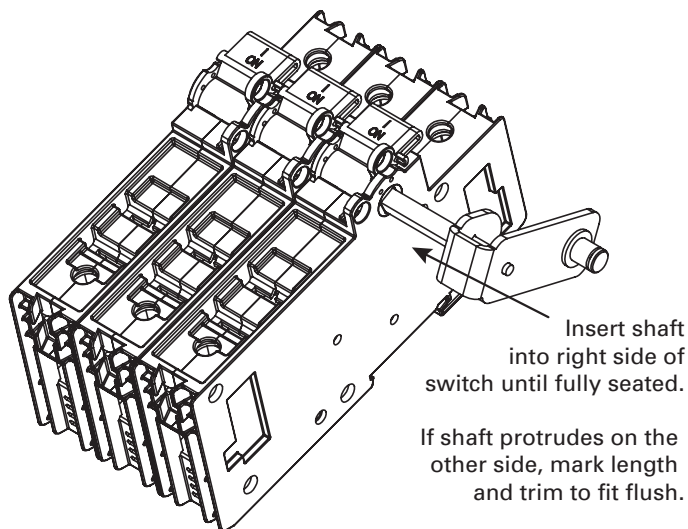

Fig. 2-1. Test fit shaft.
Step 1. Test fit the shaft into right side of switch by inserting until fully seated (see Fig. 2-1). If shaft protrudes beyond the left side, mark and trim shaft accordingly with hacksaw. Remove burrs with metal file.